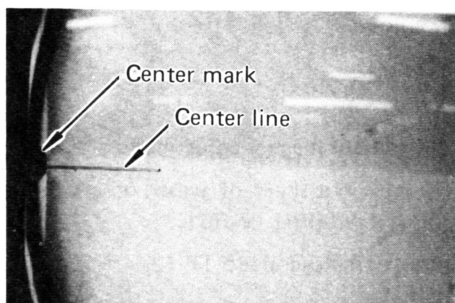

Fig. 4-7
1. Set the monitor for underscan. Measure the vertical height of the raster and draw a line indicating the midpoint directly on the monitor screen (use a felt pen or other afterwards erasable marker). See Fig. 4-7.